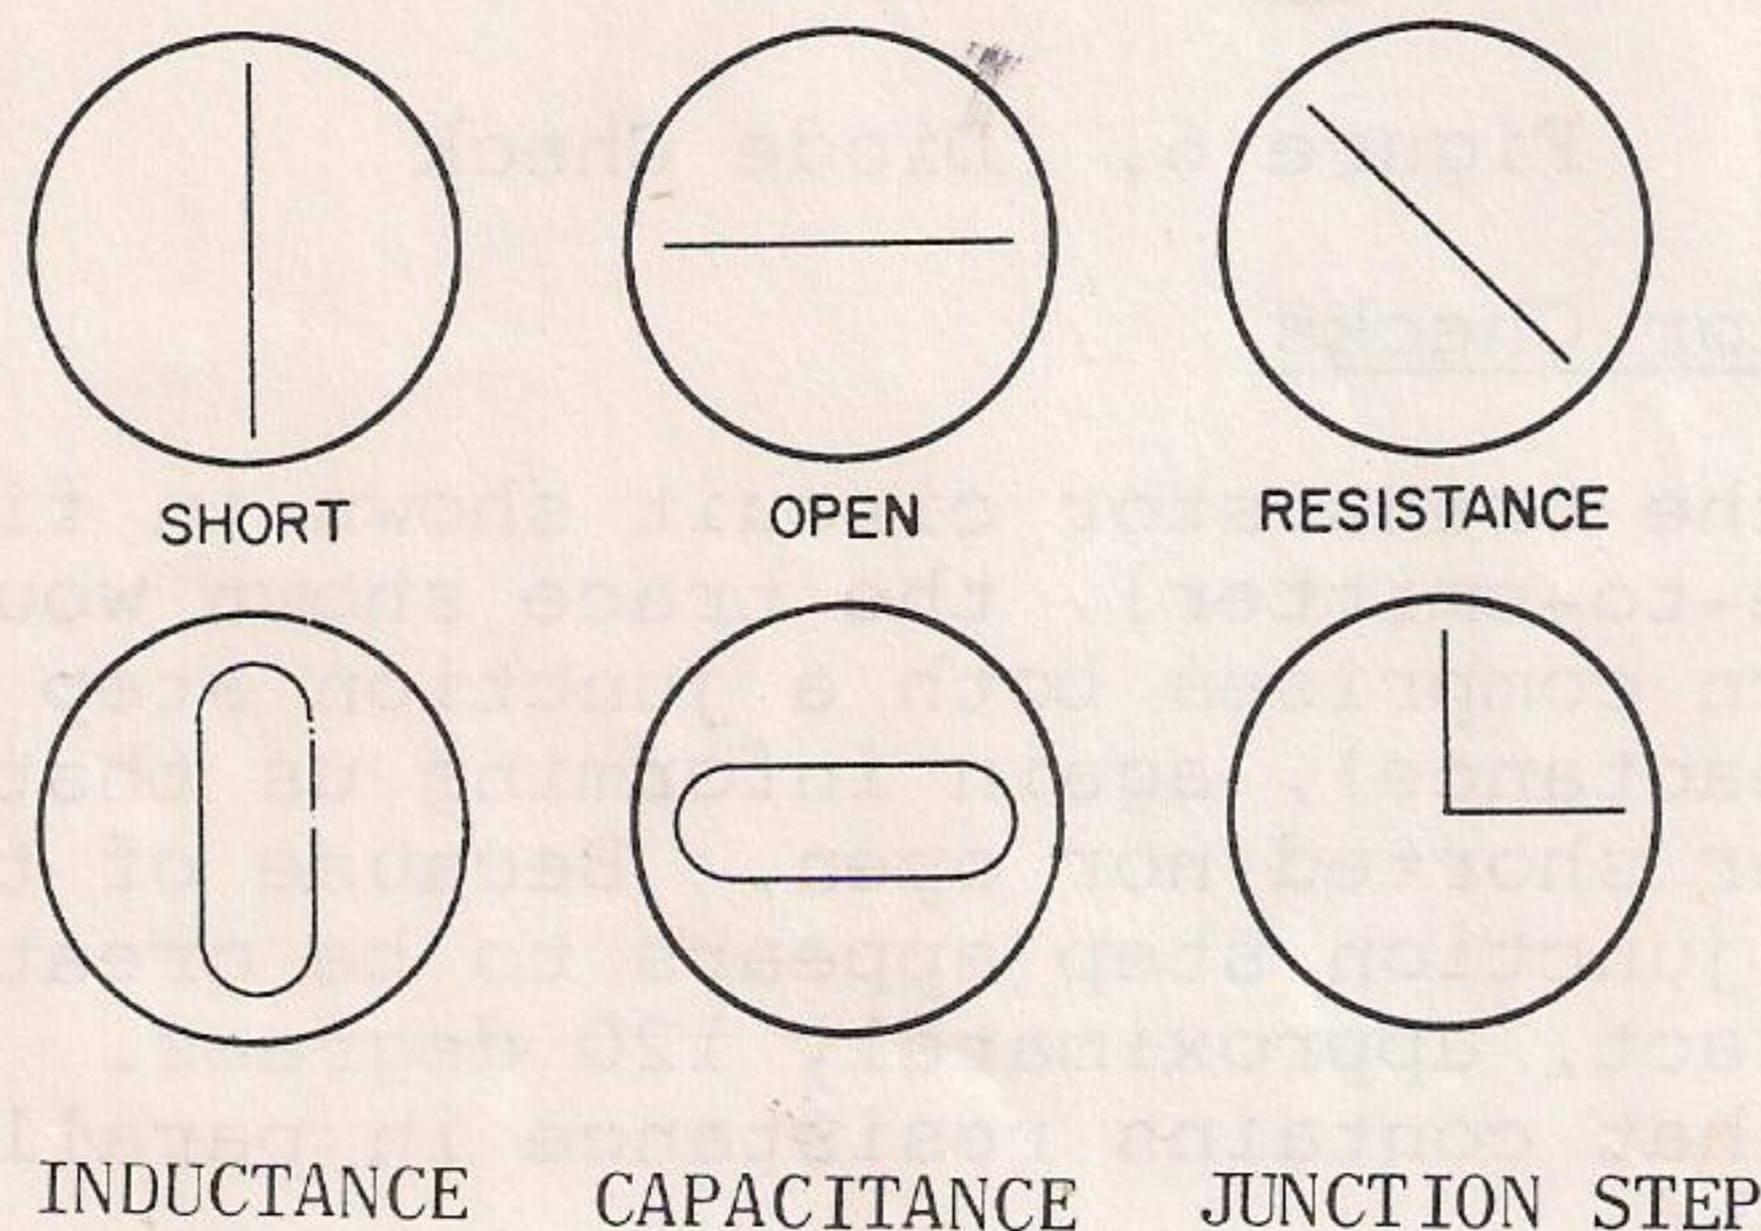

Figure 4. Typical Oscilloscope Displays
(2) Because the octopus is an ac device, the technician is able to observe reactive components, Lissajous patterns, and front-to-back ratios of junction components. Reversal of the test leads is unnecessary.
(3) When testing transistors, check first from the base to one side and then from the base to the other side. A collector-to-emitter test would have to pass through two junctions in series and will not, therefore, produce a usable pattern. For a technician to become proficient in testing components in-circuit, it is necessary for him to recognize the basic patterns when they appear singly and in combination. Subsequent paragraphs discuss common patterns that may be observed. Use of the octopus is limited only by the ability of the technician to interpret observed patterns and is not limited to the circuits discussed in subsequent paragraphs.
c. Basic Patterns. Figure 4 illustrates basic oscilloscope displays. Capacitors of very small value will appear open rather than reactive, and inductors will appear shorted rather than reactive. In most cases, however, it is still possible to detect a shorted capacitor or an open inductor by increasing the gain adjustments on the oscilloscope to the desired amplification.